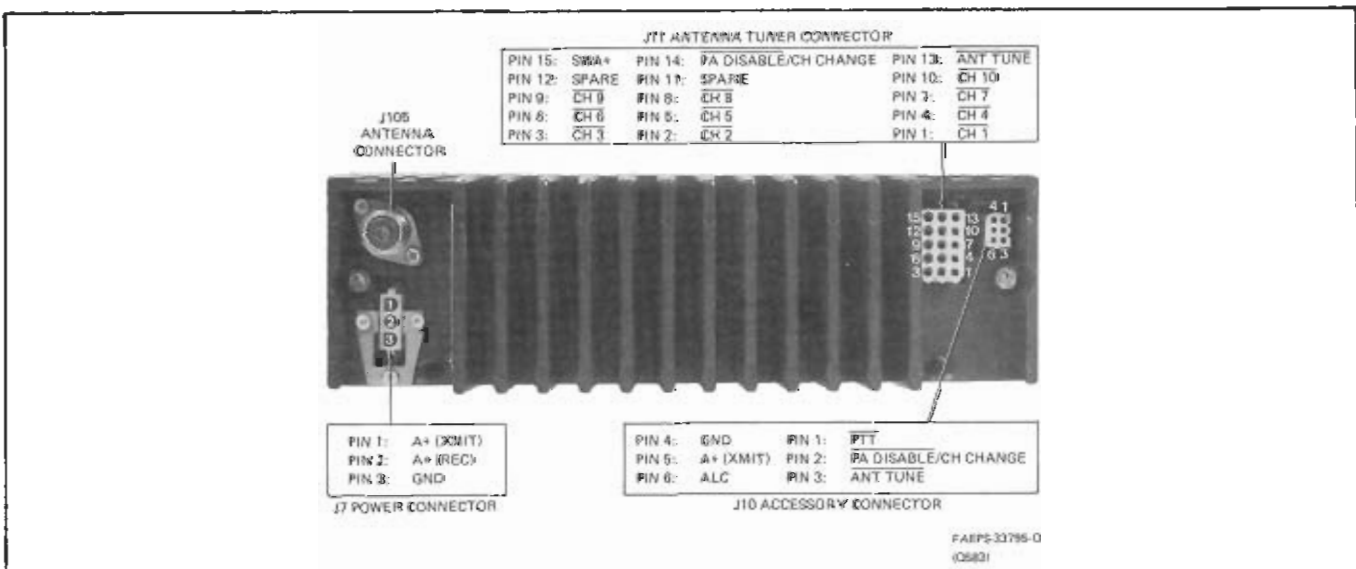

Figure 3. Rear External Connections
Step 2. Select the highest transmit frequency channel and key the transmitter by using the tune-up plug (provided) which grounds J10-3 of the 6-pin accessory connector (see Figure 3). *Be sure* that no audio input is present by disconnecting the microphone.